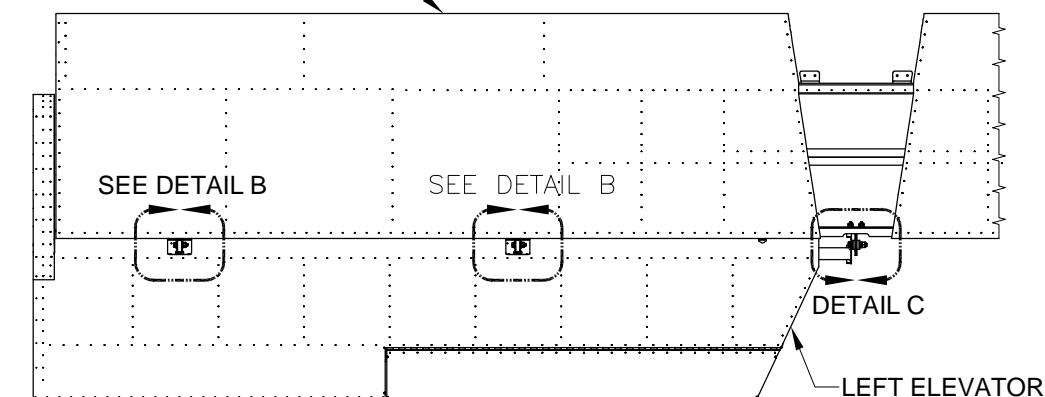

FIGURE 3: ELEVATOR INSTALLATION
Step 3: Temporarily install the left elevator to the horizontal stabilizer as shown in Figure 3. Elevator attach hardware is shown in Figure 3, Detail B. Not completely filling the gap between the elevator horn and the VA-146 with washers and then tightening the bolt to remove the gap will cause slight binding in the rod end bearings.